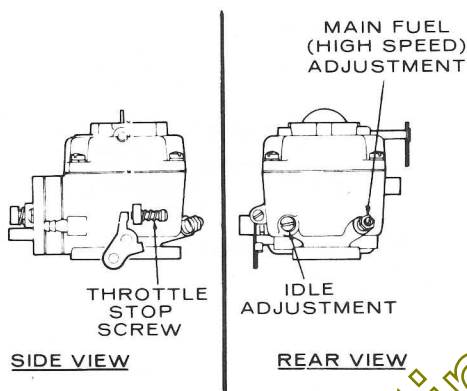
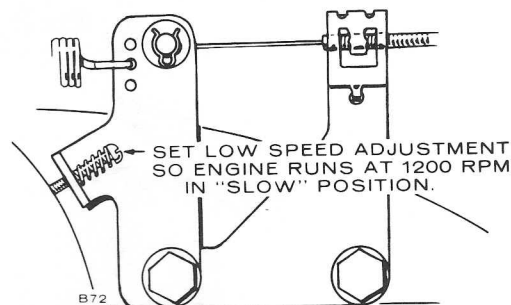

FIGURE 7. MAIN FUEL AND IDLE VALVE ADJUSTMENT
FIGURE 8. LOW SPEED ADJUSTMENT ON VARIABLE SPEED GOVERNOR
The carburetor has a main fuel valve adjusting screw and an idle valve adjusting screw (Figure 7). A low speed adjustment screw is shown in Figure 8.
2. Hold engine at idle position and set low speed adjustment screw (Figure 8) until a fast idle is obtained (1200 rpm).